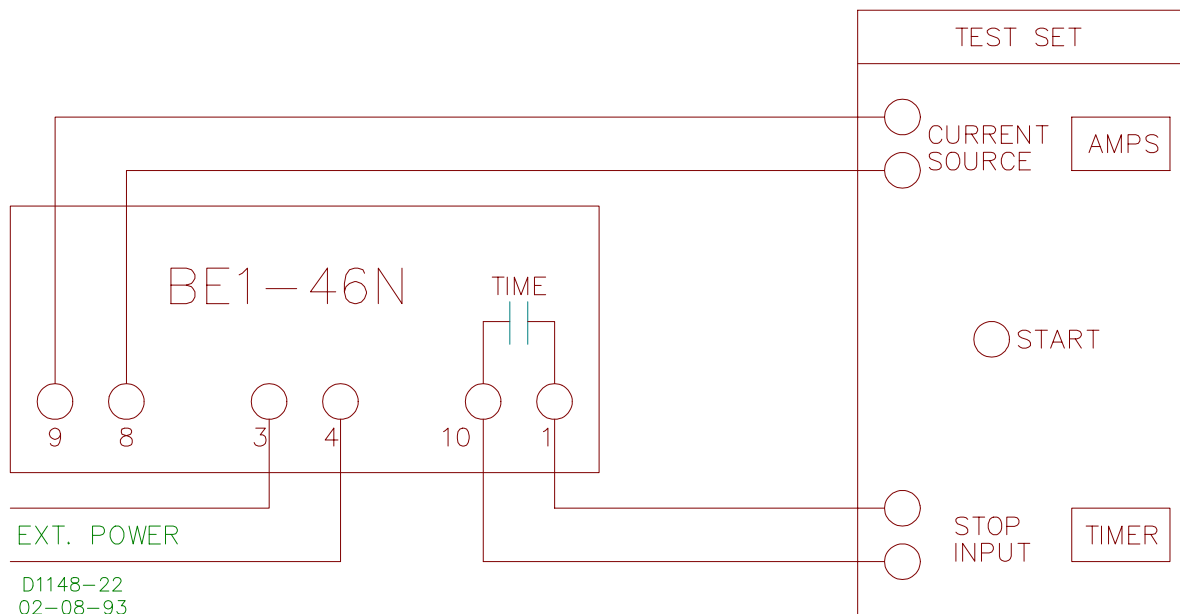

Figure 5-1. Test Setup Diagram
Step 1. Connect the test circuit as shown in the test setup diagram, Figure 5-1, set TAP ADJUST to A position, and the CAL control fully CW.
Step 1. Connect the test circuit shown in the test setup diagram, Figure 5-1, set the TAP ADJUST switch to A position, and CAL control fully CW.